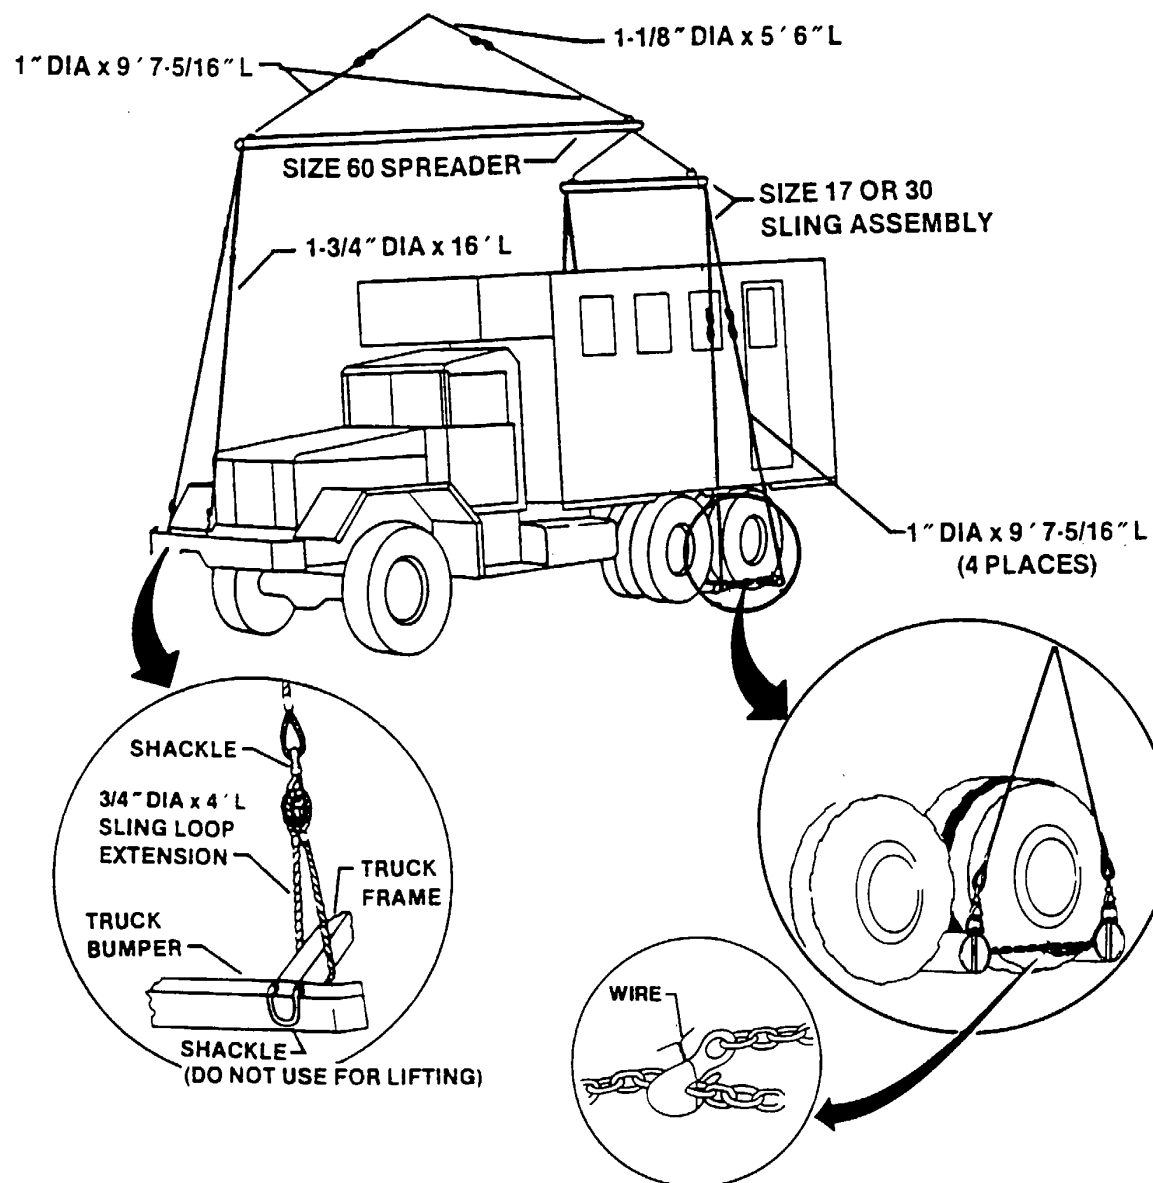

Figure 6-3. Typical lifting diagram for the M927, M928, and M942.
(2) The forward lifting provision on the M927, M928, M942, M931, and M932 5-ton trucks are not to be used when a load is placed on the vehicles. Use wire rope sling leg extensions and thread over the frame and under the front bumper, as shown in figures 6-3 and 6-4. When the 5-ton trucks do not have a winch, use a